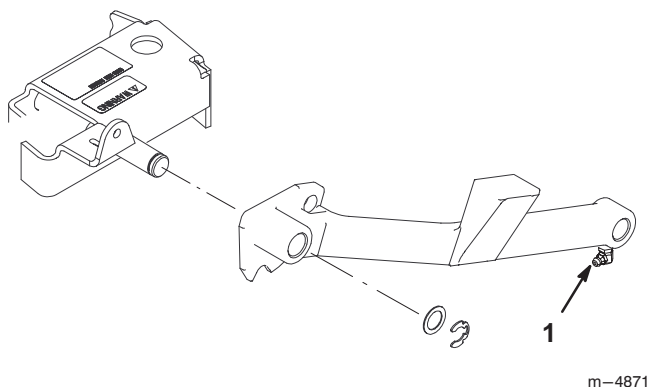

Figure 33
3. Grease the fittings on push arms (Fig. 33).